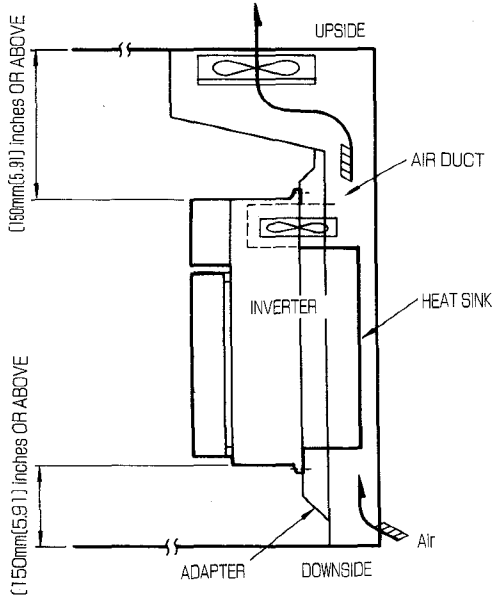

Fig. 4.7 Side View of Installation
- (3) Avoid harmful gases and liquids. Avoid locations where there is excessive dust or iron particles.
- (4) Design cooling air ducts and heat exchangers adequate to dissipate heat output from the inverter. Table 4.4 lists heat dissipation from inverters of different capacities.
- (5) The inverter houses a heat sink cooling fan on the back. Leave 150 mm or greater clearance on the upper (exhaust) and lower (entry) sides of the fan to prevent cooling performance deterioration. Table 4.4 lists required cooling air capacity for inverters of different capacities.
- (6) Although the control panel built-in type inverter is operable at 0°C to +55°C, input air to the heat sink must be 45°C or cooler.
- (7) Input and output terminals and control signal connectors are on the bottom of the inverter. Provide clearance under the inverter for wiring.
- (8) As shown in Fig. 4.7, cooling efficiency can be improved by making the control panel itself into an air duct and projecting the inverter unit in the duct to expose the heat sink directly to cooling air. If a heat exchanger is required, the capacity can be reduced by this method.
- (9) Place packing on the unit mounting portion to prevent entry of dust.
- (10) When the inverter unit is mounted on the same plane as the servo unit, use an adapter for the inverter unit to compensate for the difference of the heat sinks. (See Fig. 4.7.)
- (11) When circulating air in the cabinet for cooling, do not blow the air directly against the inverter unit.
- (12) Take periodical inspection and maintenance of the inverter into account when designing